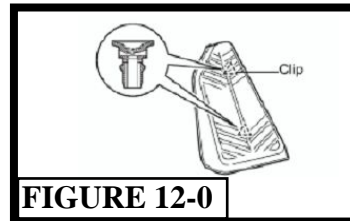

FIGURE 12-0
- (a). Remove the footrest. (FIGURE 12-0)